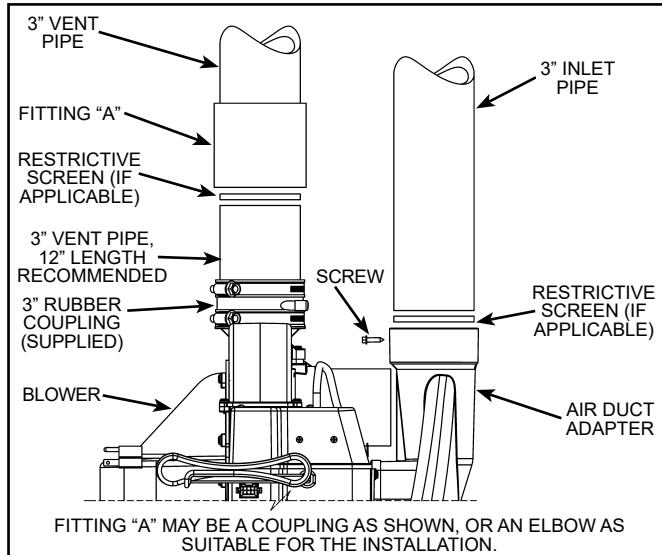

Figure 48.
- The vent piping connects into the rubber coupling located on the top of the blower assembly. This coupling includes gear clamps to connect the venting to the blower. See Figure 48.
Figure 48 shows heaters having 3" direct connection to the blower.